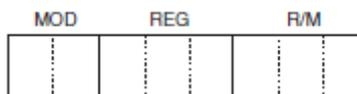

Figure 4-3: Byte of many machine language instructions, showing the position of the MOD, REG and R/M fields.
- This specifies addressing-mode(MOD) for the selected instruction (i.e. it selects the type of addressing and whether a displacement is present with the selected type) (Figure 4-3 & 4-3).